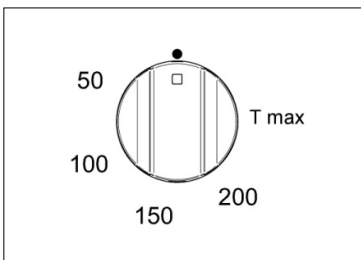
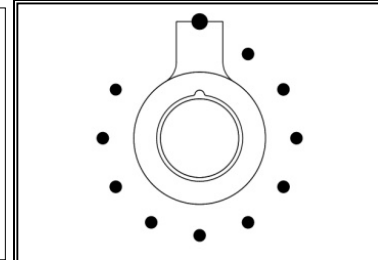

Fig 50
Fig 52
**2** Turn the temperature selector knob (Fig.48-49 and Fig.52 for PRO T version Only or Fig.50 -51 for hybrid version only) clockwise to the desired temperature. The orange light will go out once the oven has reached temperature and is ready for use. It is normal for this light to go on and off during cooking as the elements maintain the temperature (The operation of the oven is indicated by the display of the programmer for PRO T version only).